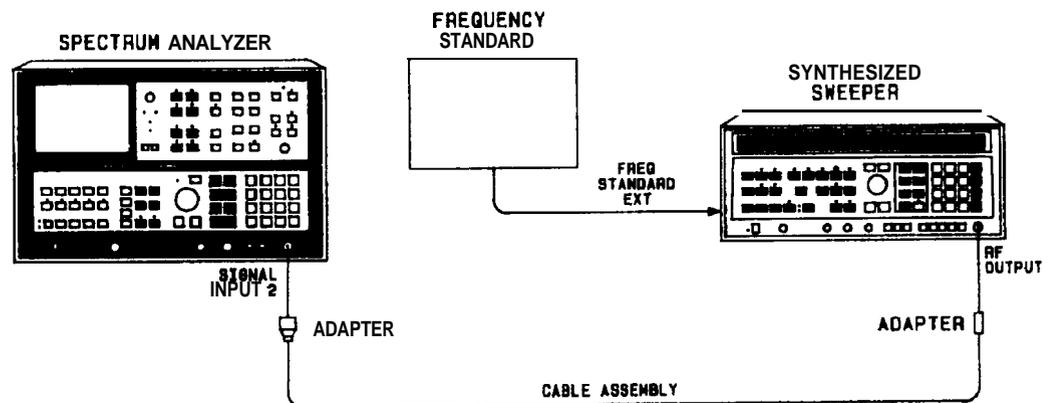

Figure 2-1. Center Frequency Accuracy **Test** Setup
6. Connect equipment as shown in Figure 2-1.